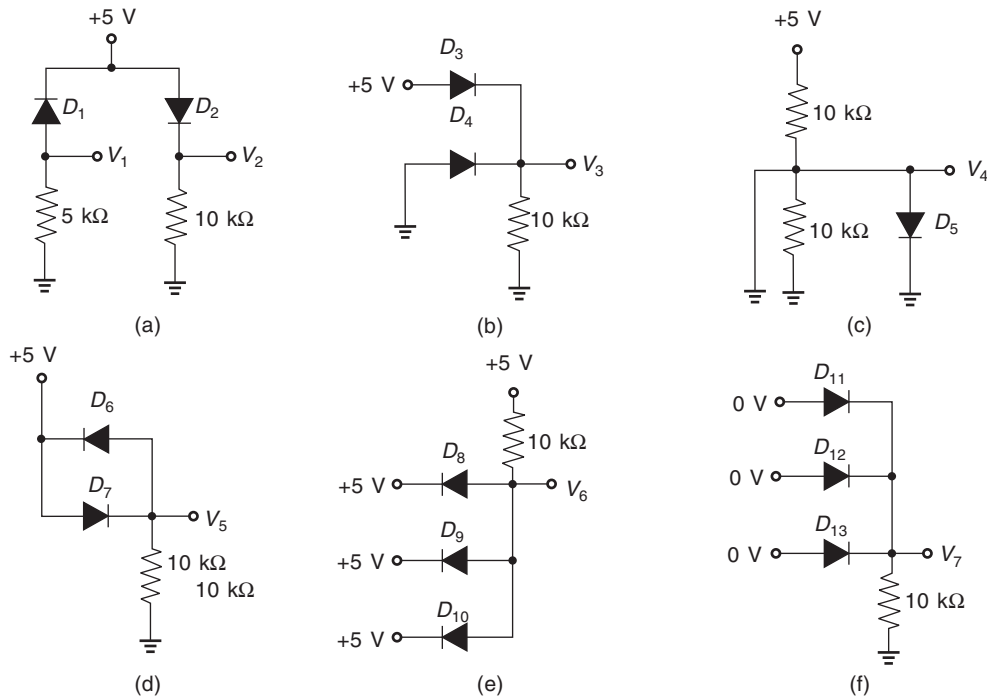

Fig. 7.59 For Problem 20.
21. In Fig. 7.59, if the anodes of any of the diodes D_{11} , D_{12} , or D_{13} is connected to +5 V instead of 0 V, what happens to V_7 ?